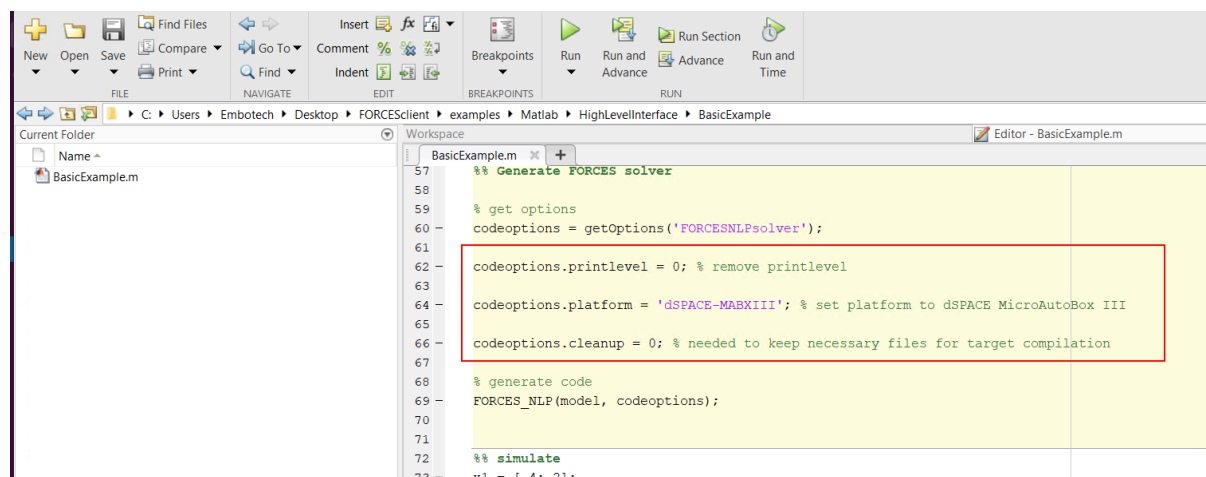

Figure 12.55: Set the appropriate code generation options.
1) Set the code generation options (see Figure 12.55):